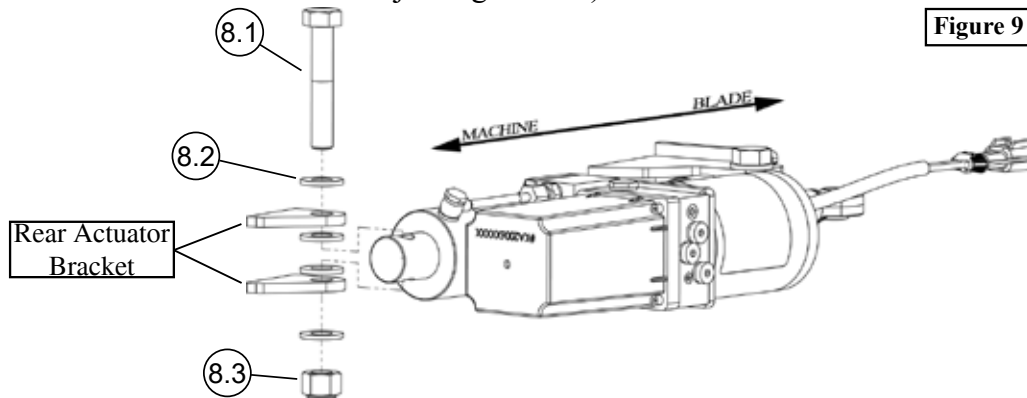

Figure 9
1. Place bolt (8.1) through flat washer (8.2), top tab of rear actuator bracket, flat washer (8.2), Hydraulic Actuator (7), flat washer (8.2), bottom tab of rear actuator bracket, and flat washer (8.2). Place nylock nut (8.3) onto bolt (8.1) as shown in **Figure 9**. (This orientation of hardware is just a guideline)
1. Place bolt (8.1) through flat washer (8.2), top tab of rear actuator bracket, flat washer (8.2), Hydraulic Actuator (7), flat washer (8.2), bottom tab of rear actuator bracket, and flat washer (8.2). Place nylock nut (8.3) onto bolt (8.1) as shown in Figure 9. (This orientation of hardware is just a guideline)